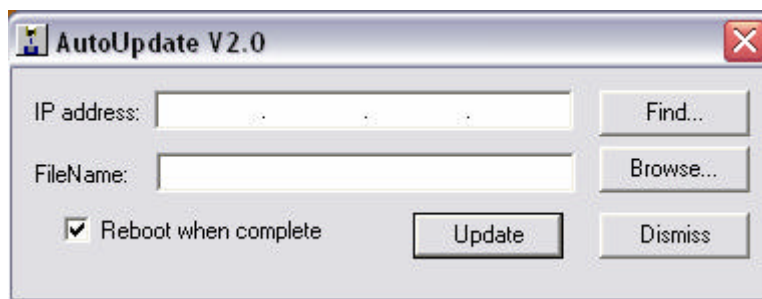

Figure 12 AutoUpdate Screen
1. Double click on the AutoUpdate icon and Figure 12 will be displayed.